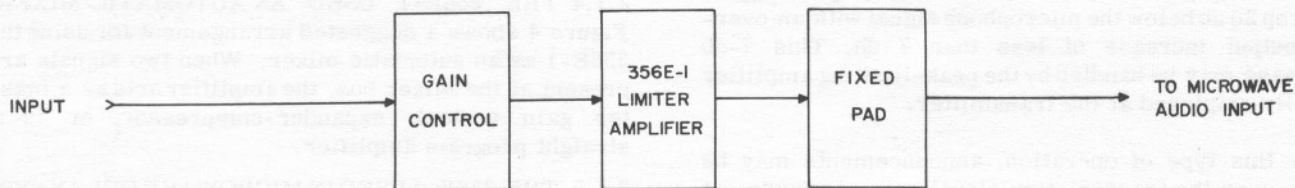

Figure 5. Collins Type 356E-1 Limiter Amplifier as Automatic Level Control in Microwave Relay Systems, Suggested Arrangement
**2.1.5 THE 356E-1 USED IN MICROWAVE RELAY SYSTEM.** Figure 5 shows a suggested arrangement for using the 356E-1 to minimize audio level variations in a microwave relay system.